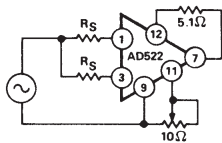

Figure 2. Optional CMR Trim
these errors can not be corrected by calibration. Common mode rejection of the AD522 is active laser-trimmed to the limits of thin-film resistor stability. Further trimming could improve CMR on a short term basis, but regular readjustment would be necessary to maintain this improvement (see Figure 2). In this example, untrimmed CMR and noise cause a total error of  $\pm 0.0065\%$  of full scale and are the major contributors to resolution error.
**CMR Trim:** A short-term CMR improvement of up to 10dB at low gains can be realized with the circuit of Figure 2. Apply a low-frequency 20/G volt peak-to-peak input signal to both inputs through their equivalent source resistances and trim the pot for an ac output null.